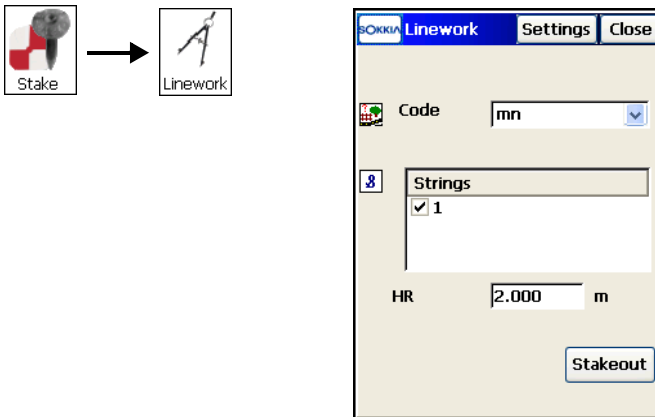

Figure 9-52. Linework
2. On the *Linework* screen (Figure 9-52), tap the **Settings** button and specify the Stakeout parameters as described in “Stakeout a Point” on page 9-2.
3. On the *Linework* screen, select a code from the drop-down list, and check necessary strings (Figure 9-52). To view the strings, tap the *Strings* item in the bitmap menu. Specify the antenna parameters: the height value and type, or